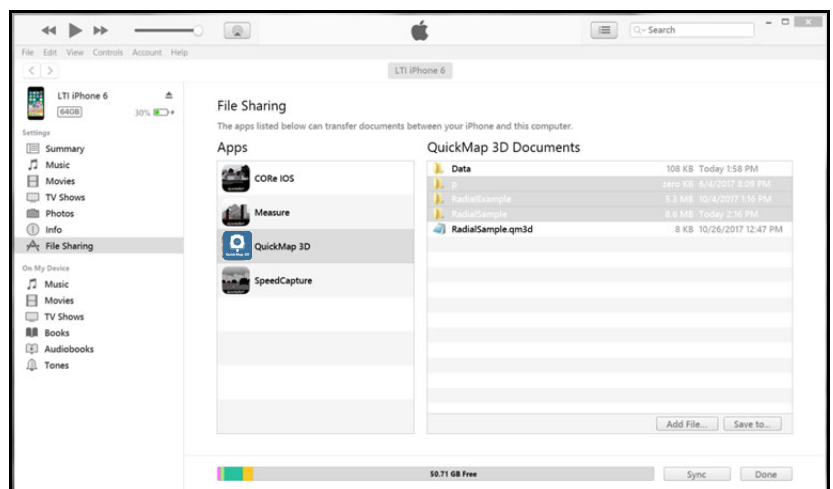

Figure 76
6. Click report folders to select/highlight them for transfer, then Click [Save to...] (Figure 76).